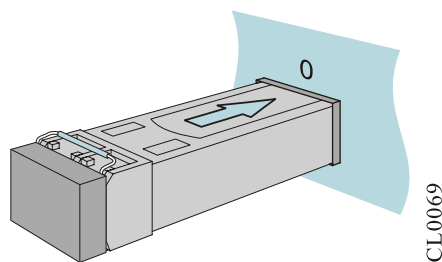

FIGURE 5-5 INSTALL SFP+ MODULE
Step 4: Up-turn the handle of the installed SFP+ module to the vertical position to lock the buckle at the top of the module. Use the hands to hold the two sides of the SFP+ module and push it into the SFP+ slot horizontally until the SFP+ module closely-contacts with the slot (you can feel that the shrapnel at the bottom and top of the SFP+ module locks the SFP slot). The diagram of installing the SFP+ module is as shown in Figure 5-5.